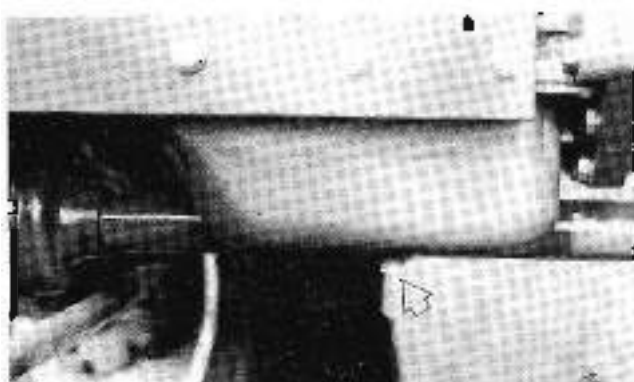

Figure 36 — Engine Oil Drain Plug
1. With the engine off, but at normal operating temperature, drain the engine oil by removing the drain plug. Figure 36. Reinstall the plug after the oil has drained and discard the oil.